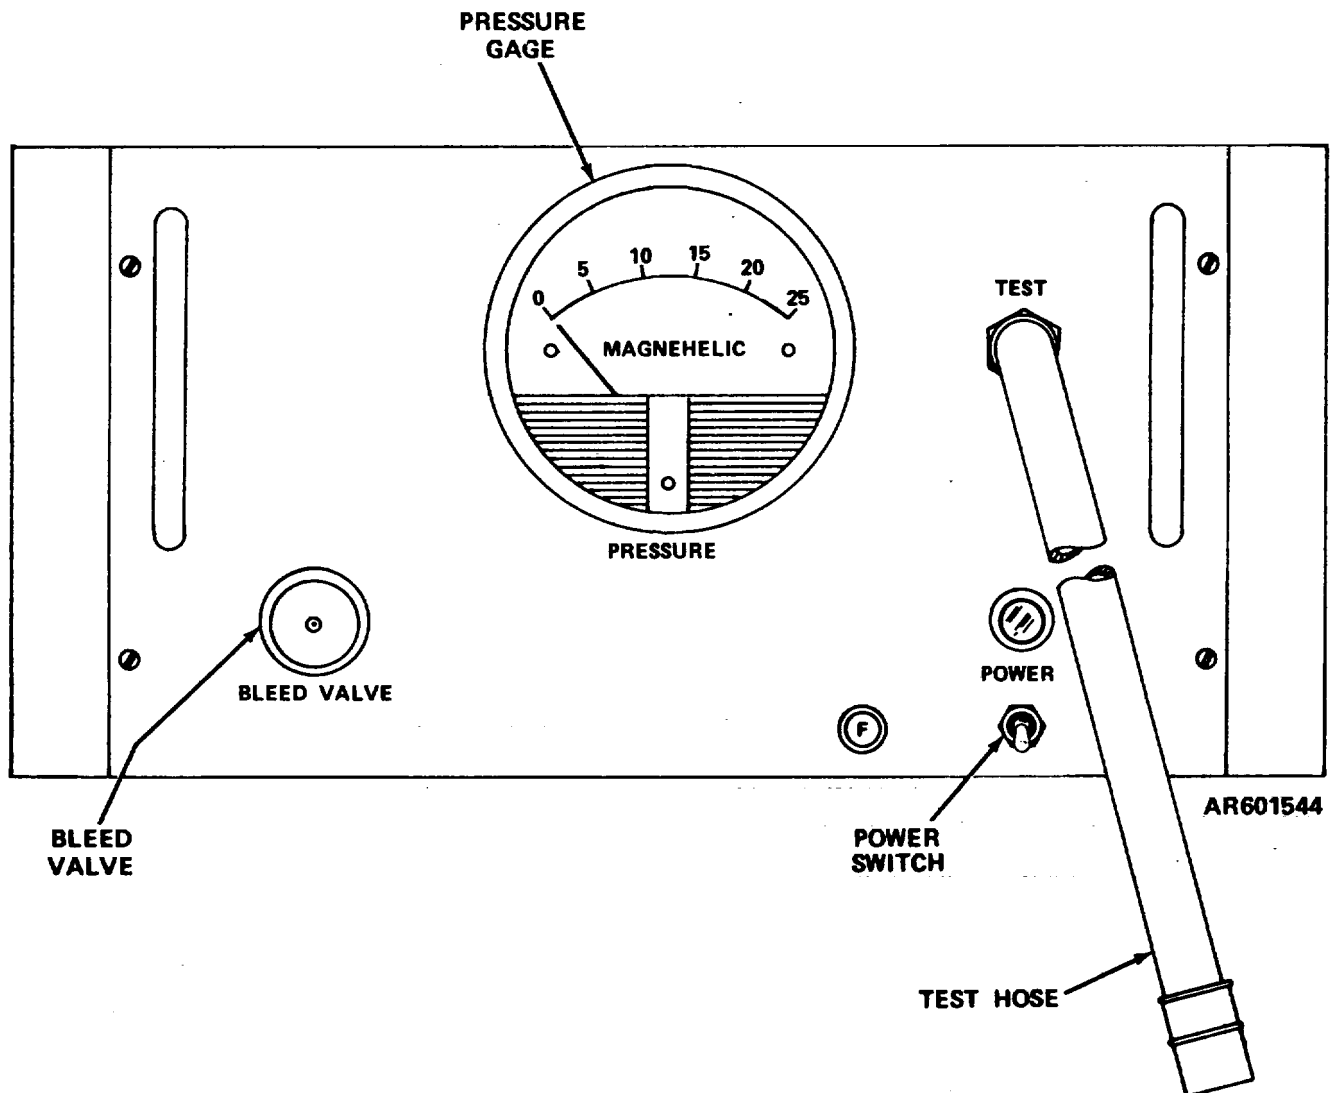

Figure 2. Locations of TI controls and instruments used during calibration.
**7. Equipment Setup (fig. 2).** a. Adjust mechanical zero-adjustment on the TI PRESSURE gage.